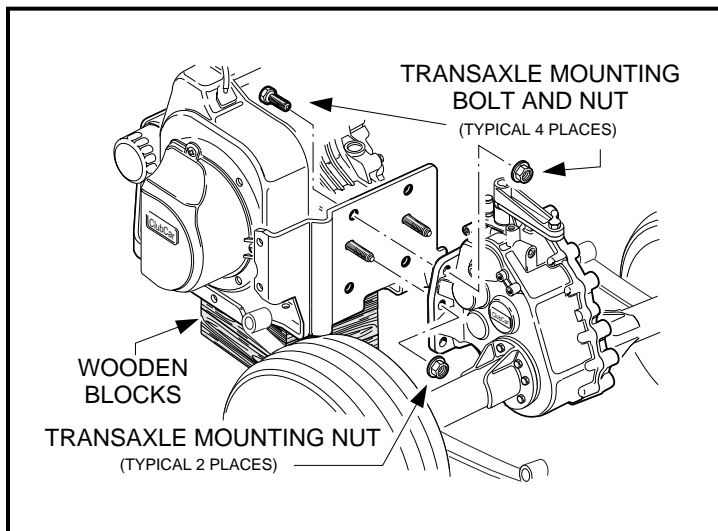

Figure 16-34 Transaxle Mounting
- 21.1. Remove four transaxle mounting bolts (one at each corner of the transaxle mounting plate) as shown (**Figure 16-34, Page 16-13**).
- 21.2. Remove two middle transaxle mounting nuts as shown (**Figure 16-34, Page 16-13**).